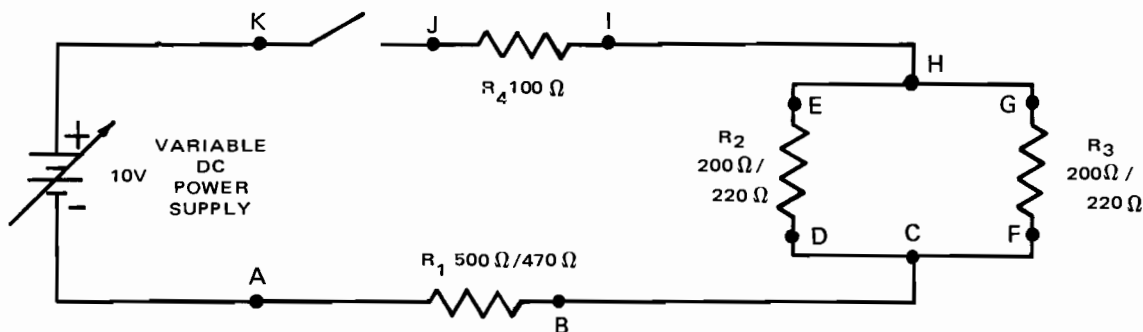

Fig. 5-3-1
1. Connect a series-parallel circuit as in Fig. 5-3-1, using a resistor decade module or individual resistors.